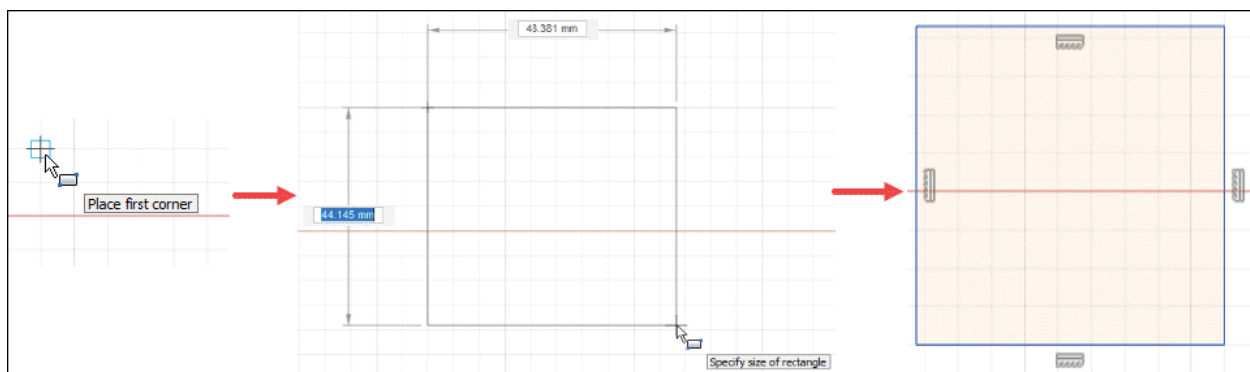

Figure-10. Creation of 2-point rectangle
- Click on the sketch canvas to specify first point of rectangle. You will be asked to specify the other corner point; refer to Figure-10.